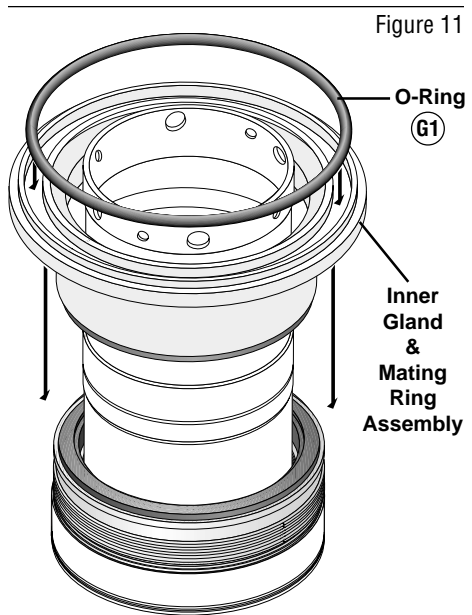

Figure 11
4.8 Place the inner gland/mating ring assembly face down onto the sleeve/bellows assembly. (Figure 11)
4.9 Install the inner gland O-ring (G1) into the face groove in the inner gland. (Figure 11)